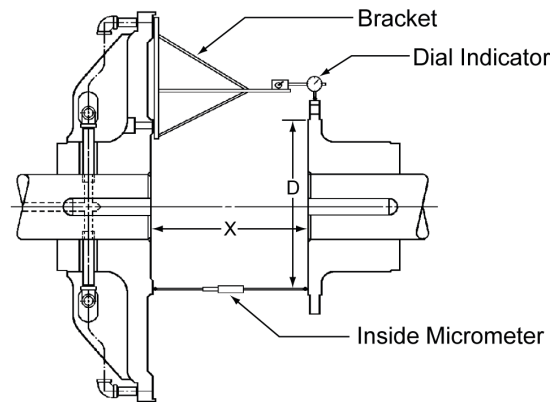

Figure 5
Not to exceed 0.0005 inch per inch (0.0127mm/ mm) diameter at which readings are taken ("D" on **Figure 5**).
- 2.4.1 Foundations must be set so distance "X", shown on **Figure 5** (or the appropriate drawing for non-standard applications), is established. If the clutch is mounted on a shaft having plain bearings, make sure the shaft is centered within the bearings when establishing the "X" dimension. Refer to Table 2 for appropriate "X" dimensions.
- 2.4.2 Fabricate a rigid bracket for supporting a dial indicator and attach to the spider shown on **Figure 5**.
Table 2. "X" Dimensions (Fig 5)